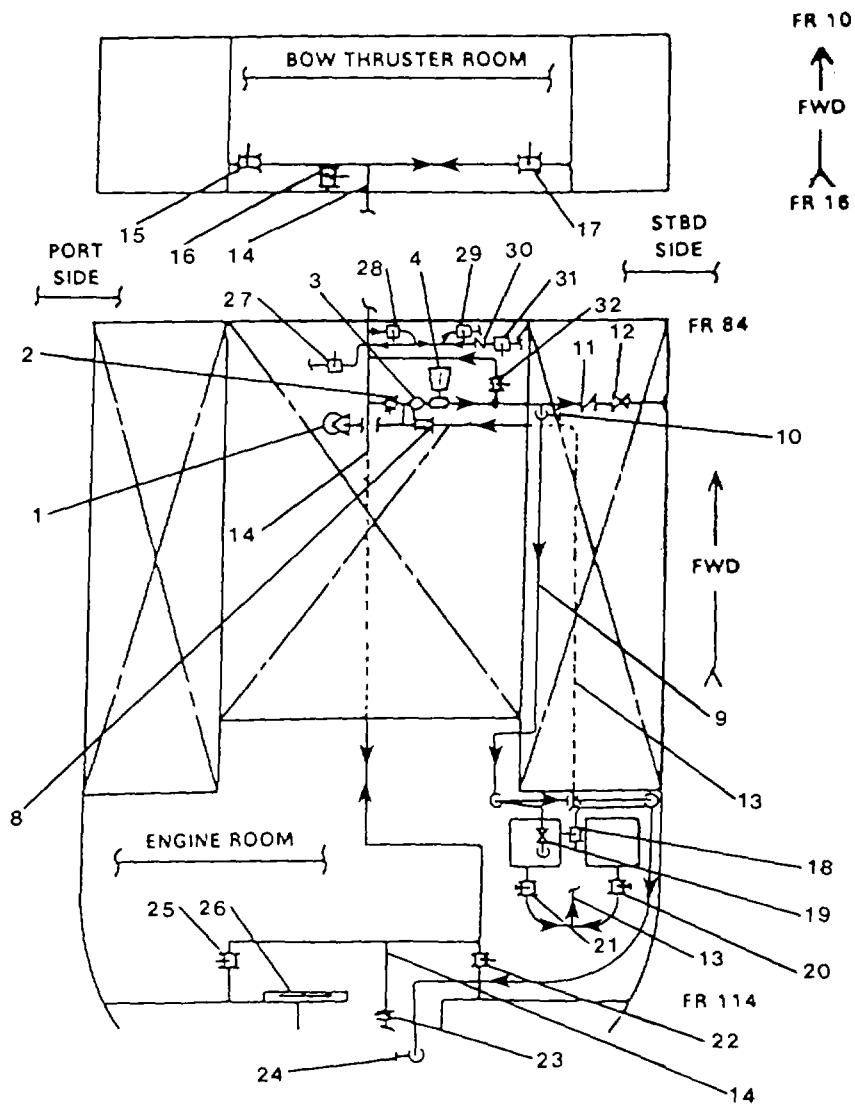

FIGURE 2-144. Ballast Piping System (Sheet 1 of 2).
- j. Close all valves in ballast piping system (FIGURE 2-144).
- b. Close all valves in the ballast piping section. Pump is shut down (not running) (FIGURE 2-144).
- c. Open bilge suction valve (1).
- d. Open gauge cutout valve (5).